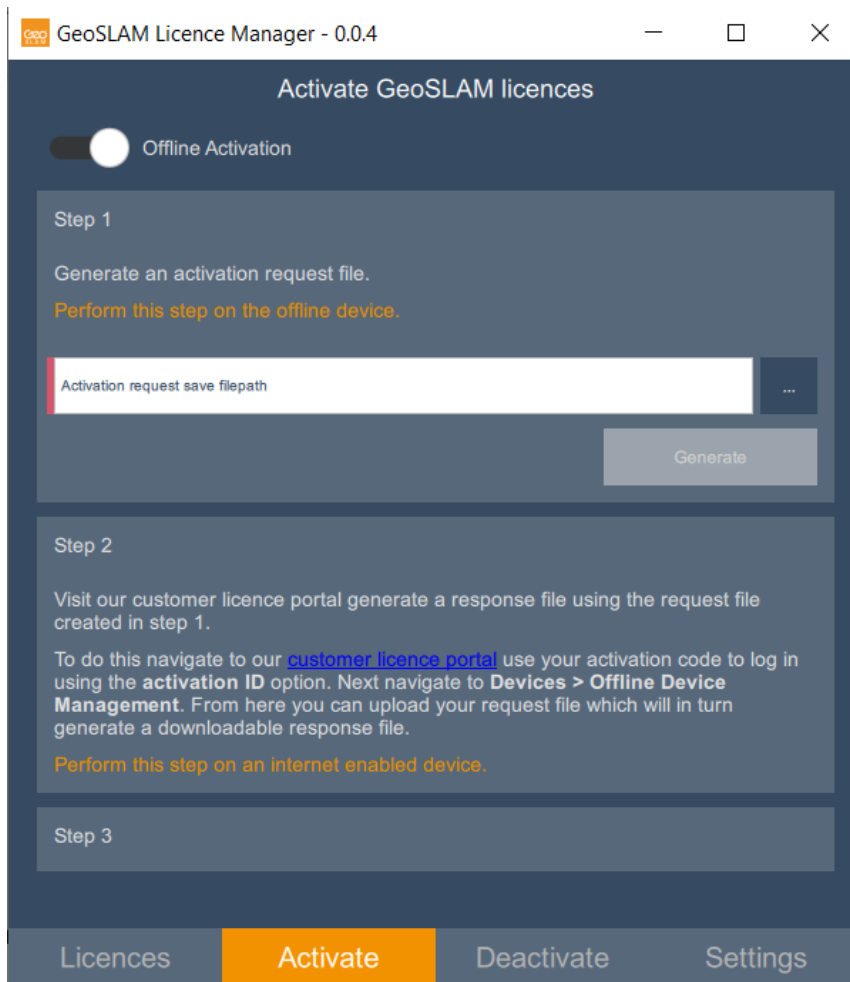

Figure 4 - Offline activation tab within GeoSLAM Licence Manager Tool.
1. *Select* -> **Offline Activation** tab (Figure 4).